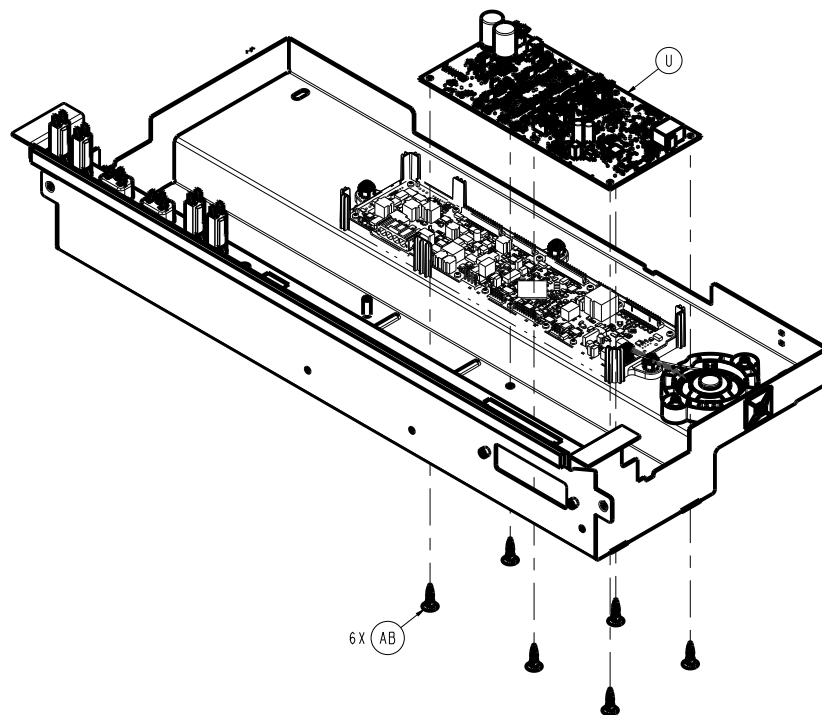

Figure 31 – Replacing the motion controller board
8. Note all cable locations, then unplug all cables from the motion controller board (U) (Figure 31).
9. Using needle nose pliers, unclip the six locking standoffs (AB) that secure the motion controller board (U) to the electronics box assembly (Figure 31).